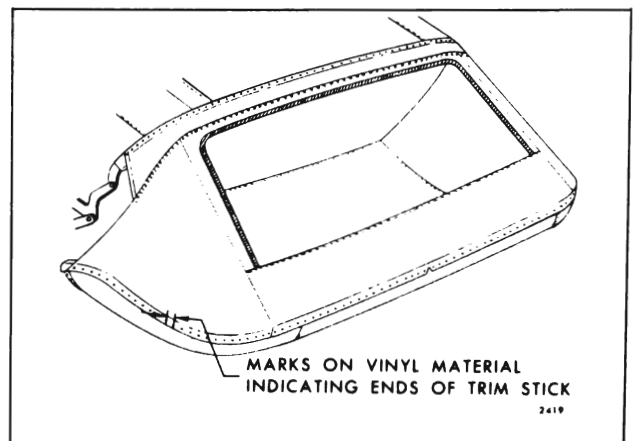

Fig. 13-51—Marking Back Curtain
14. Using chalk, or other suitable material, mark ends of rear and rear quarter trim sticks on vinyl surface of back curtain material (Fig. 13-51). Reference marks for trim sticks should be transferred to new back curtain material when step 3 of installation procedure is performed.